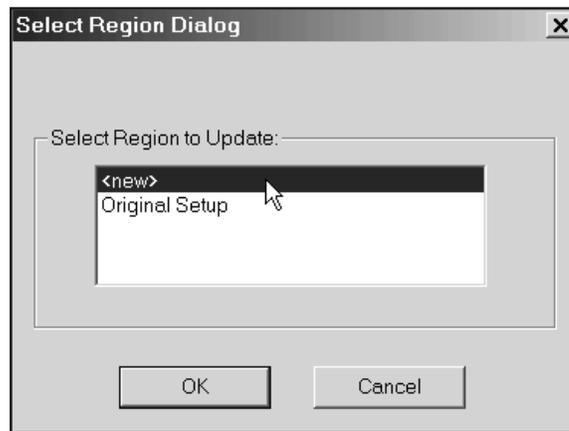

Figure 54 Select Alpha/Beta Region Dialog
4. Once both discriminators are set at the correct values for the data loss and spillover desired, click on **Apply** and select *<new>* in the Select Region dialog box (Figure 54). Click on **OK**.